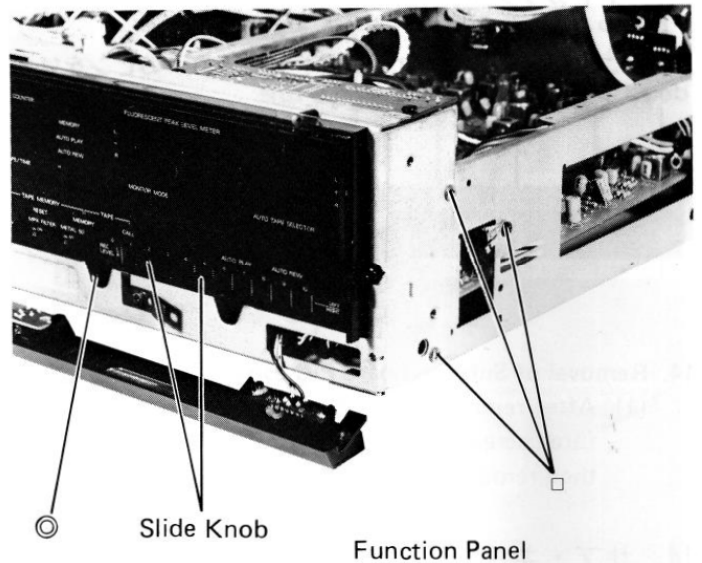
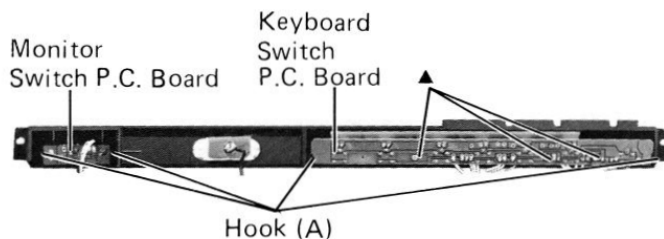

Figure 9
Figure 11
- (1) After removal of rear cover and bottom cover, remove three screws marked "■" as shown in Figure 9.
- (1) After removal of chassis side R and cassette deck assembly, remove three screws marked "◎" as shown in Figures 9 and 10.
- (2) Disconnect all wires from the P.C. Boards.
- (3) Remove three screws marked "▲" and unfasten four hooks (A) as shown in Figure 11.
- (1) After removal of Sub Keyboard P.C. Board, remove two slide knobs as shown in Figure 9.
- (2) Tear off plate volume.